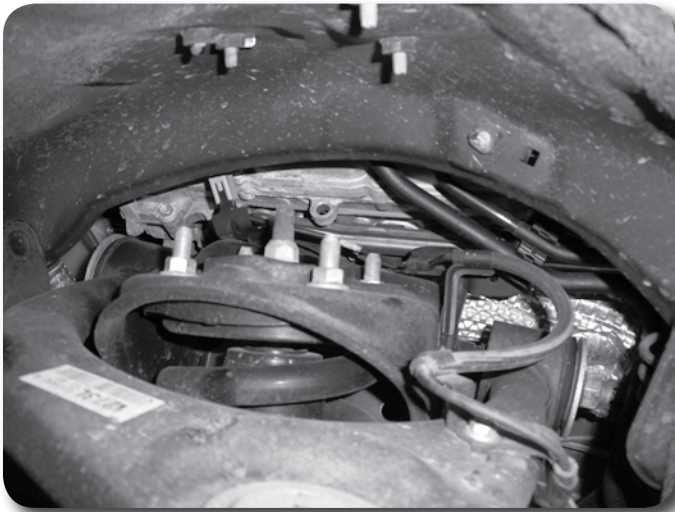

Figure 4
11. Locate and remove the 4 upper strut mounting bolts at the frame. **Figure 4** Remove the strut from the vehicle. DO NOT remove the center strut rod nut. It is under extreme pressure.